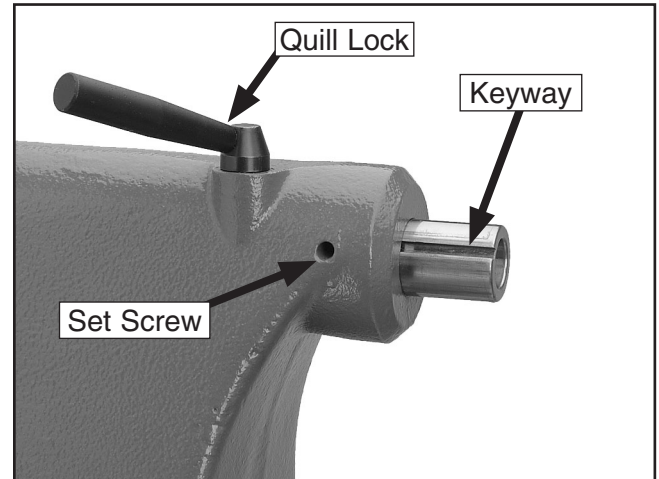

Figure 18. Keyway aligned with set screw.
4. Make sure the keyway is aligned with the set screw and tighten the handle (**Figure 18**).